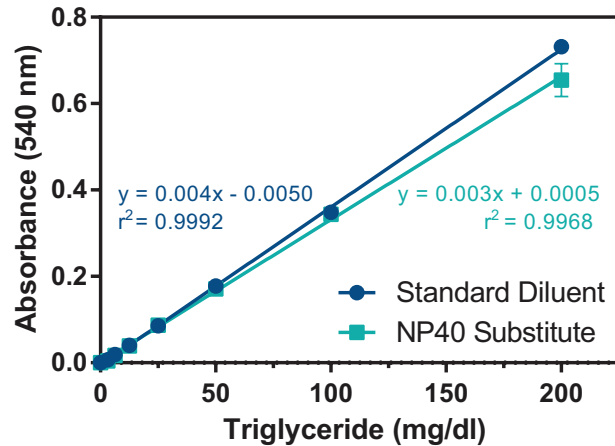

Figure 4. Triglyceride standard curve
3. Graph the corrected absorbance values (from step 2 above) of each standard as a function of the final triglyceride concentration (mg/dl) (see Table 1, page 15). A typical triglyceride standard curve is shown in Figure 4 on page 18.